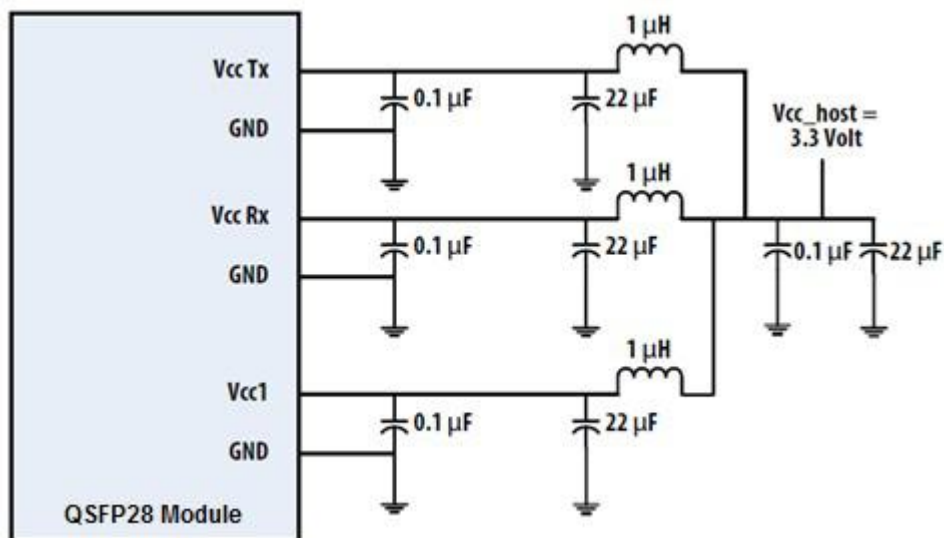

Figure 3. Recommended Power Supply Filter
2. VccRx, Vcc1 and VccTx are the receiving and transmission power suppliers and shall be applied concurrently. Recommended host board power supply filtering is shown in Figure 3 below. Vcc Rx, Vcc1 and Vcc Tx may be internally connected within the QSFP28 transceiver module in any combination. The connector pins are each rated for a maximum current of 1000mA. 28 transceiver module in any combination. The connector pins are each rated for a maximum current of 1000mA.